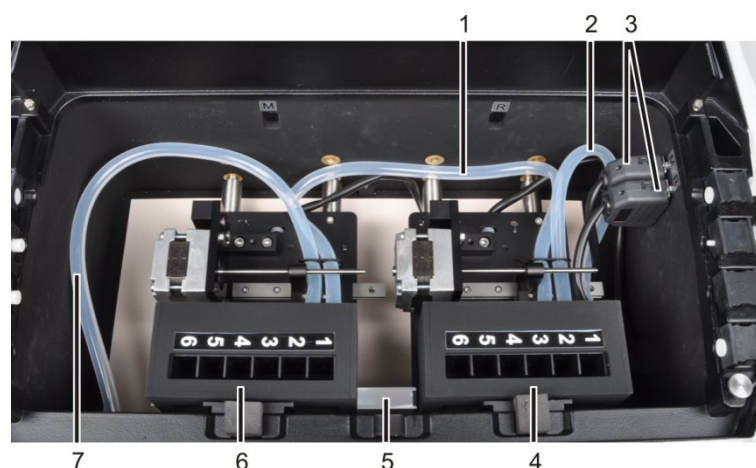

Fig. 34 Two 6-cell changers in the SPECORD PLUS
- Using the guide rail (5 in Fig. 34) (included), align both cell changers with respect to each other so that they have the same distance from the front sample chamber. Correct the adjustment of the stop bolts (7 in Fig. 31 p. 34), if required.